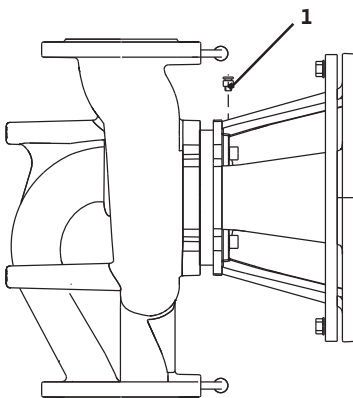

Fig. 43: Ventilation valve
- Vent the pumps by loosening the air vent valves (Fig. 43, Item 1). Any dry running would destroy the mechanical seal of the pump. The differential pressure sensor must not be vented (risk of destruction).